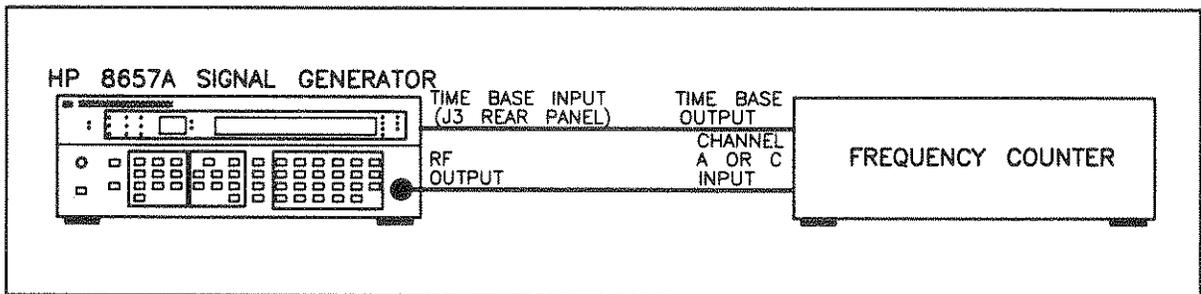

Figure 4-9. DC FM Test Setup
28. Connect the RF OUTPUT from the Signal Generator to the INPUT of the frequency counter, and connect the Signal Generator TIME BASE INPUT to the Frequency counter TIME BASE OUTPUT as shown in Figure 4-9.